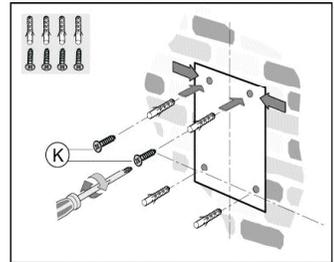

Fig.3
- Mark out, and cut the fixing holes (fig 3).
- Fix the 2 top screws K and screw the anchors (fig 3) without tightening them completely.